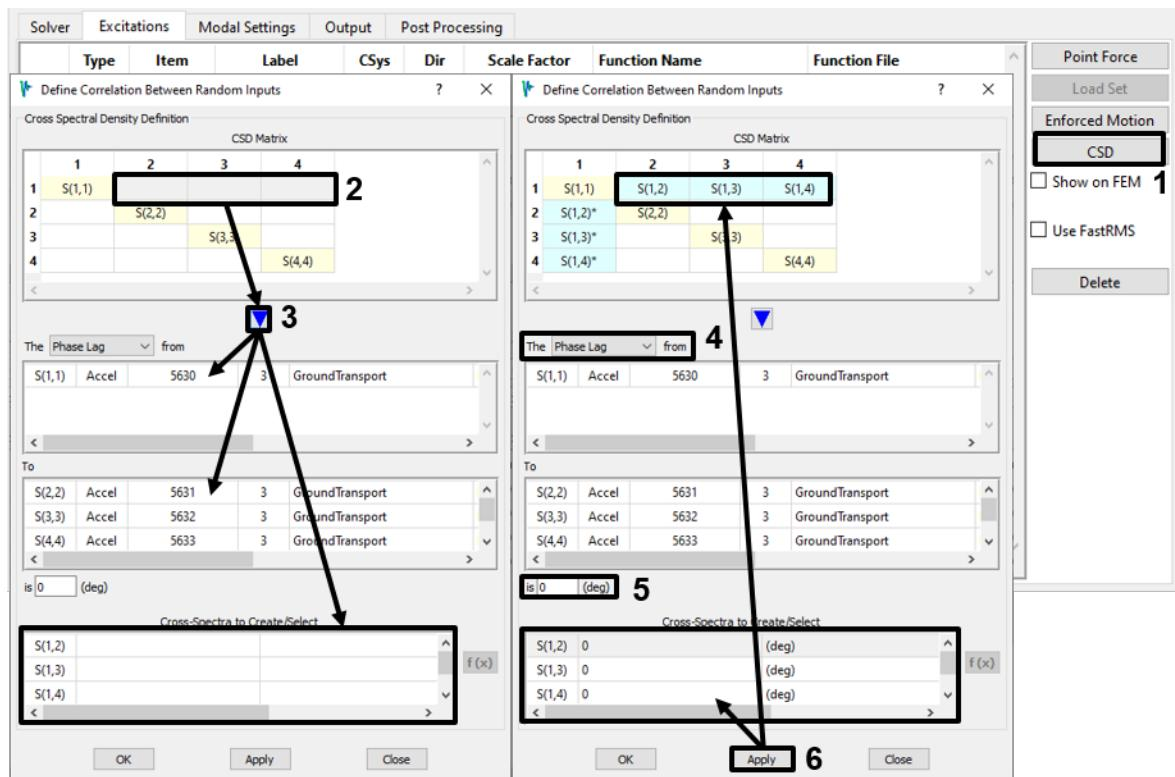

Figure 4-61. Define 0-degree phase lag correlations from the first input PSD to the other three.
2. On the *Excitations* tab, bring up the CSD dialog. Select the entire first row of the *CSD Matrix* table and click the **Assign Selected CSD** button (Figure 4-61). This prepares the dialog to create correlations from the first input PSD to the other three PSDs. Make sure the **CSD Type** pulldown is set to *Phase Lag* and the **Phase/Time**